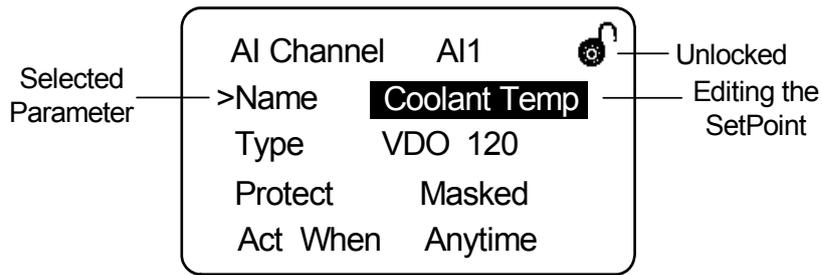

Figure 2-11
- Select “Name” set point, press RESET key to enter editing status, see figure 2-11